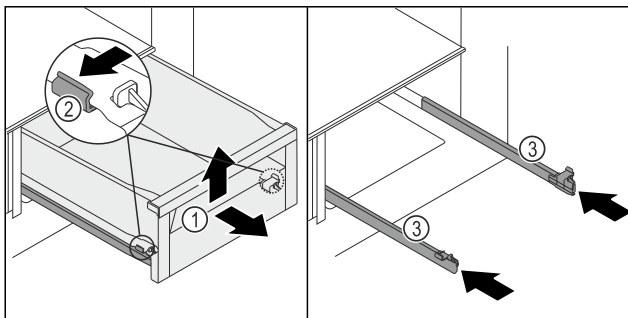

Fig. 103
- Pull the drawer Fig. 103 (1) out as far as it will go.
- Press the left and right clamps Fig. 103 (2) on the rails slightly outwards at the same time.
- Drawer Fig. 103 (1) detaches from the rails.
- Lift up the drawer Fig. 103 (1) forwards.
- Remove the drawer Fig. 103 (1) forwards.
- Push in the rails Fig. 103 (3).